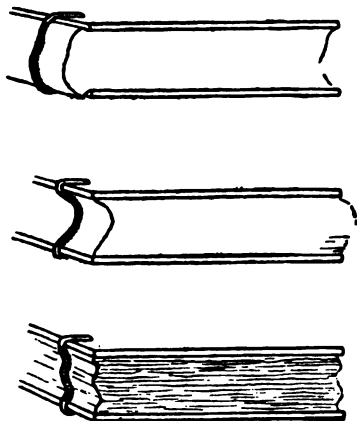

FIG. 37.
**Rounding and Backing** (see fig. 37). The object of rounding is to control the distribution of this swelling, and to make the back take an even and permanently convex form.